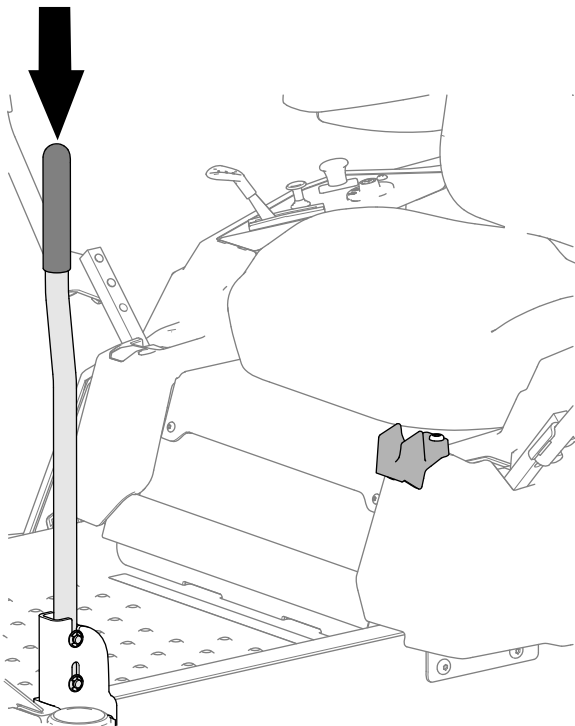

Figure 9
2. Lower the assist handle as shown in Figure 9.